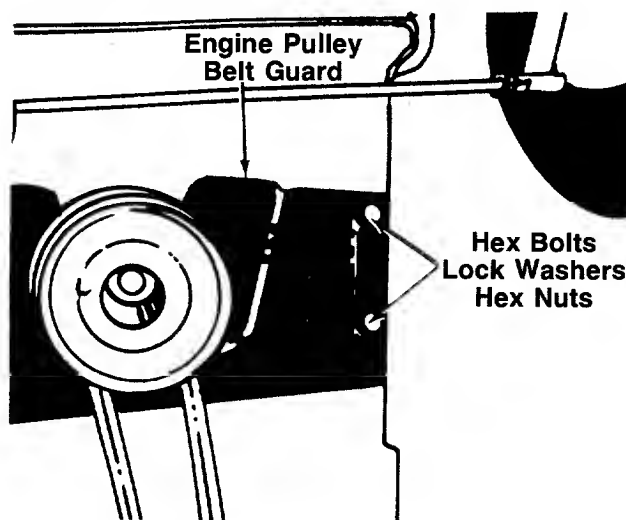

FIGURE 19.
Figures 19 through 21 are shown with the unit tipped up for clarity. It is not necessary to tip the unit to remove the belts.
5. Remove the two bolts, lock washers and nuts on each side of the frame which hold the engine pulley belt guard to the frame. See figure 19.